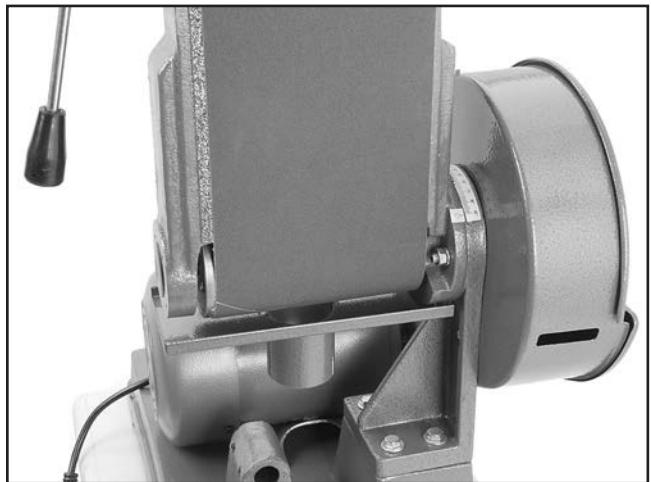

Figure 65. Sanding belt tilted to 90° position.
6. Raise the sanding belt frame until it reaches the 90° mark (or the desired angle) on the tilt scale, as shown in **Figure 65**, then tighten the rotation lock nuts.